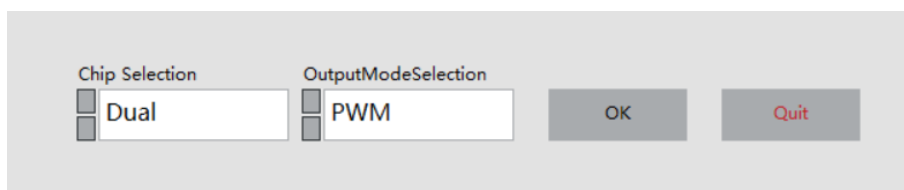
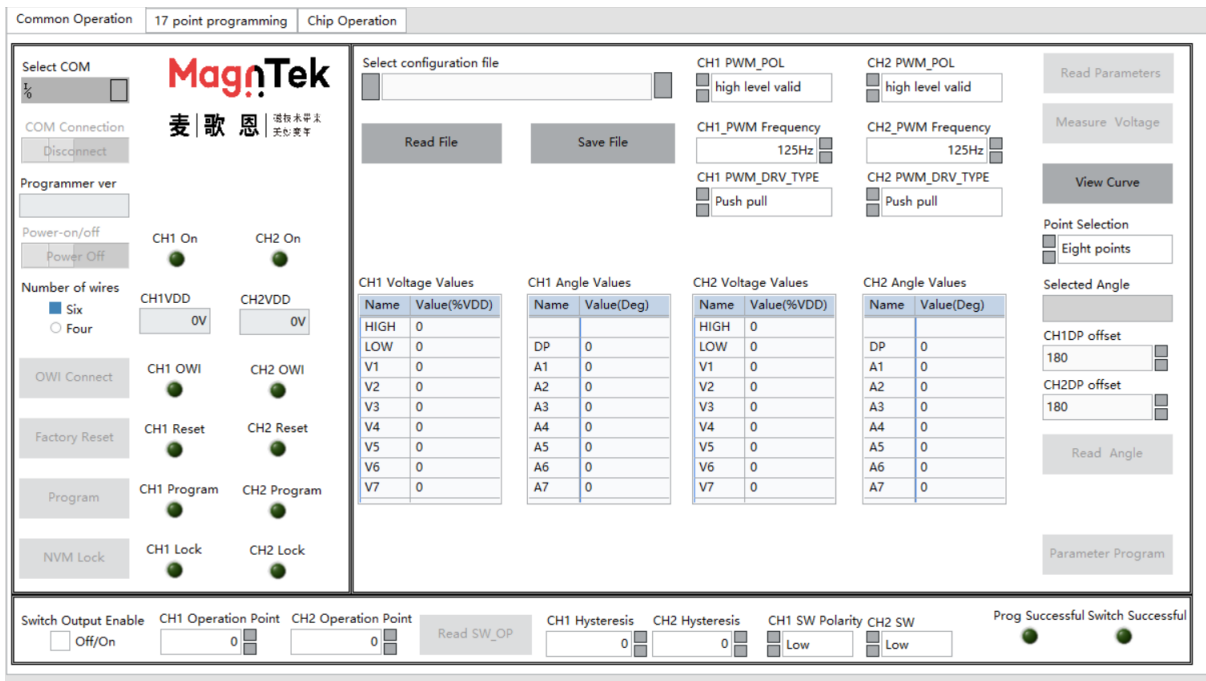

Figure 5.5.1 Chip mode selection
Figure 5.5.2 Dual chip PWM output programming
- 3、 Double click on the "PB600-MT652xGUI. exe" file, open the software, and a chip mode selection interface will pop up (Figure 5.5.1). After selecting the "Dual" and "PWM" parameters, click "OK" to enter the programming interface for this mode (Figure 5.5.2).